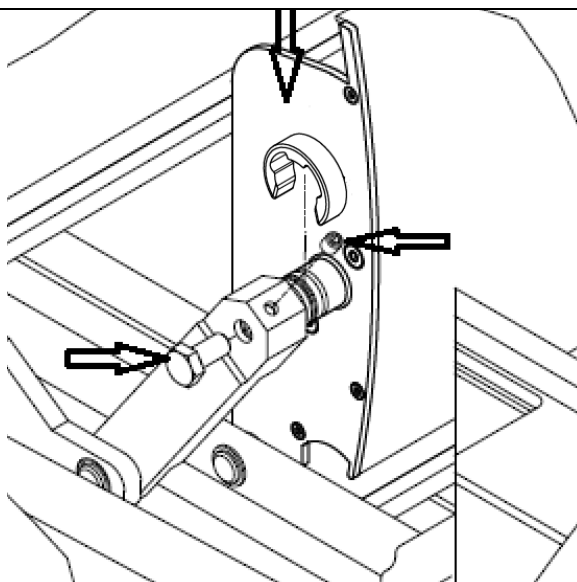

Figure 50
13. Set the blade upright and tighten the locks: - from the side of the arm into the shaft axis – hexagonal screw M8x16. Tighten with slack (fig. 50)
17. Fully tighten the hexagonal bolts into the shaft axis of both blades (tightening torque 17 Nm) and at the upper ends of the arms screw in the pressure screws M6x8 with Allen socket (tightening torque 7 Nm) into the threaded hole (tightening torque 7 Nm) - fig.50.